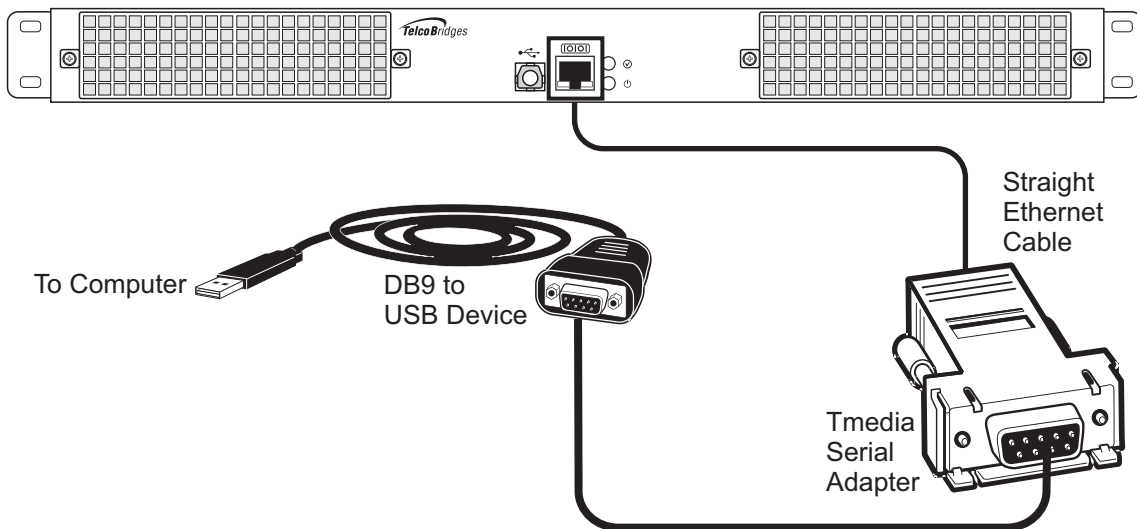

Figure 3.4 Conceptual View of a Serial Connection from the 800 Series Gateway to a Computer
2. If your computer’s serial port features a DB9 connector, use the Tmedia serial adapter supplied with your 800 series gateway. If your computer’s serial port features a USB connector, you will need to provide a USB to DB9 adapter. Refer to figure 3.4 on page 44.